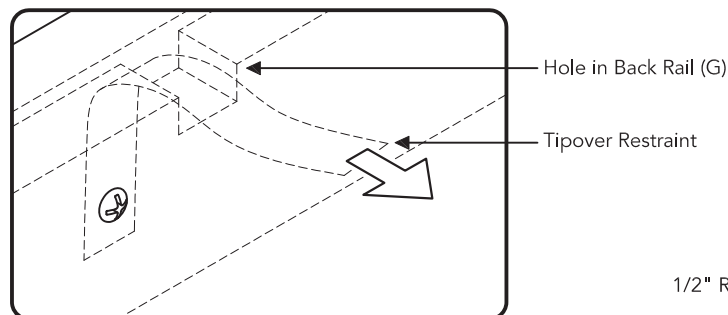

Figure 5
Move unit back into place and insert Tipover Restraint into unit through hole in Back Rail (G). (See Figure 5)